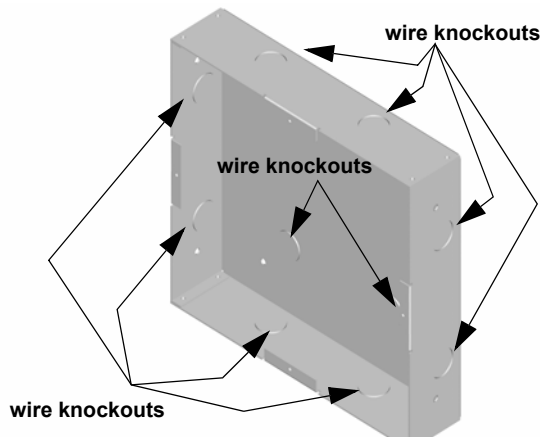

Figure 3 Backbox Knockout Locations
2. Remove the knockout holes to use to pull through the wires, as needed. See Figure 3 for the backbox knockout locations.
1. Remove the desired knockouts. See Figure 3.